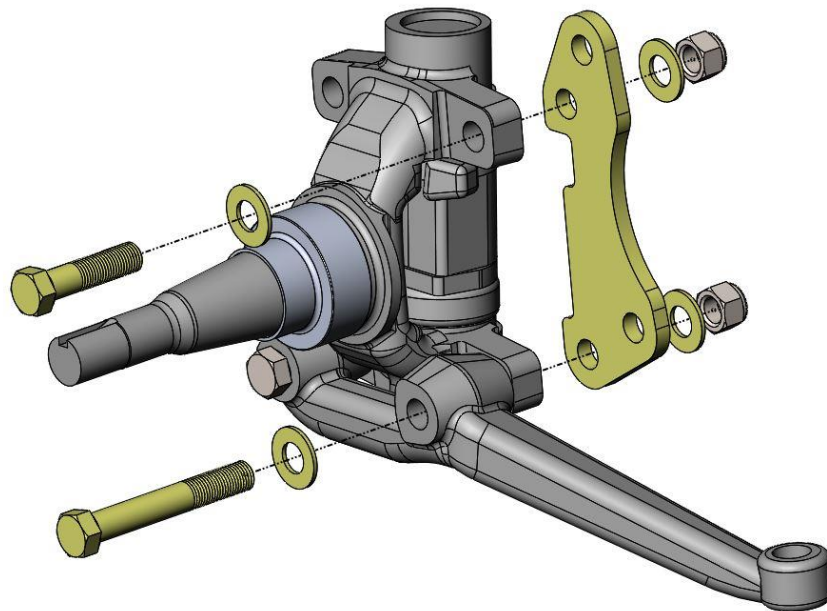

Figure 2 – Secondary Caliper Bracket Installation (Driver Side Shown)
6. Position the Secondary Caliper Mounting Bracket against the spindle. Using a 7/16"-20 x 1-3/4" Grade 8 Hex Head Bolt in the upper hole and the 7/16"-20 x 3" Grade 8 Hex Head Bolt in the lower hole (which is also the steer arm mounting location). When installing the bolts, use a 7/16" Flatwasher on both sides along with a 7/16"-20 Nyloc Nut on each bolt. With the nuts installed, torque these bolts along with the OE bolt used in the forward steer arm to 55 ft/lbs. This can be seen in Figure 2 below.